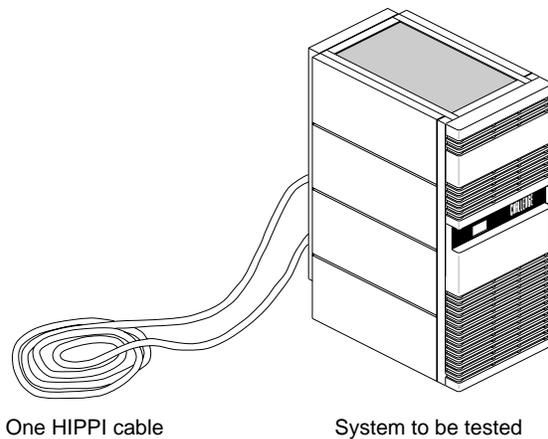

Figure 3-1 Installing a Copper Loopback Link Using a HIPPI Cable
- Use any standard HIPPI cable to connect the IRIS HIPPI DST and SRC ports on the IRIS HIPPI board’s I/O panel plate to each other, as illustrated in Figure 3-1.